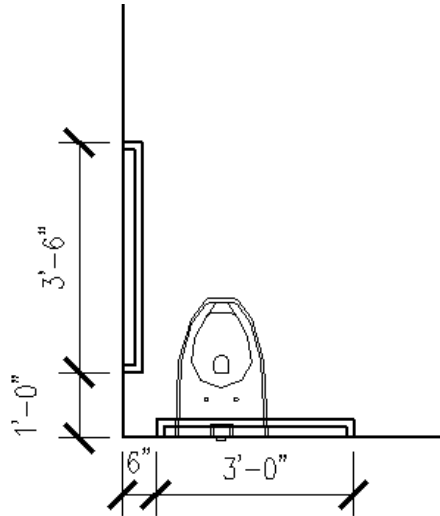
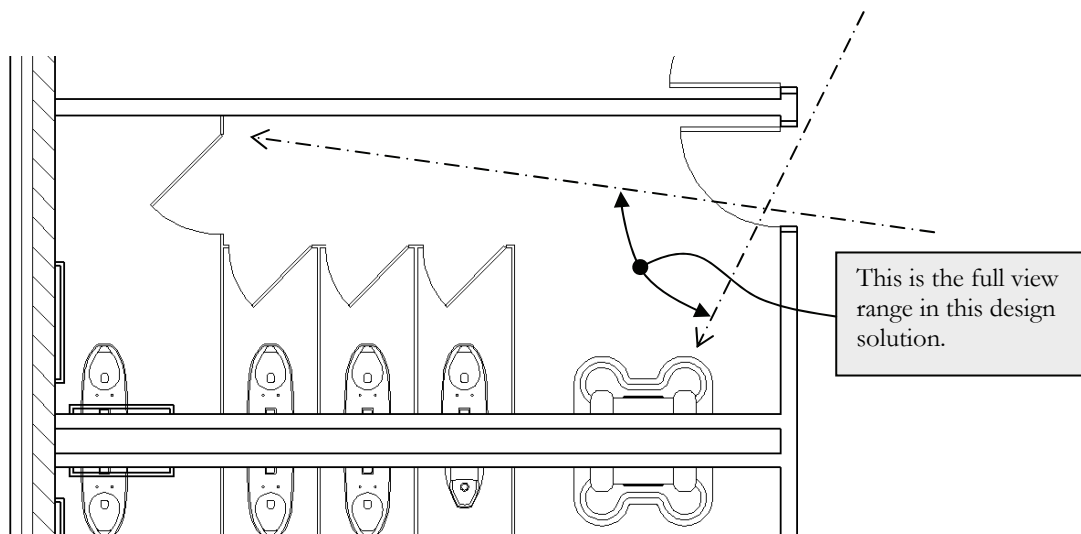

FIGURE 4-1.7A Grab bar dimensions;
FIGURE 4-1.9 Dashed lines reveal unacceptable sightlines into the toilet room
- b. See **Figure 4-1.7a** for the grab bar dimensions.
- b. See **Figure 4-1.7a** for the grab bar dimensions; see Figure 4-1.9 for grab bar locations.
- c. The northern room has (3) toilets and a Lavatory System.
- d. The southern room has (2) toilets, a urinal and a Lavatory System (obviously this is the Men's toilet room).
An unacceptable design solution is shown in **Figure 4-1.9**. The toilet room is much larger and can even have another toilet fixture without the door modification for sight-lines; also, the door is right off the circulation path which can be problematic. Notice two lines are shown to visualize the full visual range. Granted, some of this view is obstructed by a person's body as they pass through the door opening; it is still an undesirable design solution.